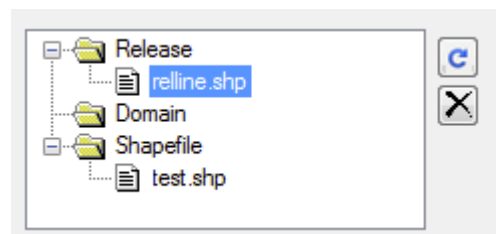

Figure 4.24: File-tree at the bottom of the right tab.
2. Use the file-tree in the *General* tab in the *ROCKFALL* panel on the right side. Click on the appropriate shapefile to load the release line into the visualization (see Figure 4.24). Click **Refresh Tree**  to refresh the file-tree.